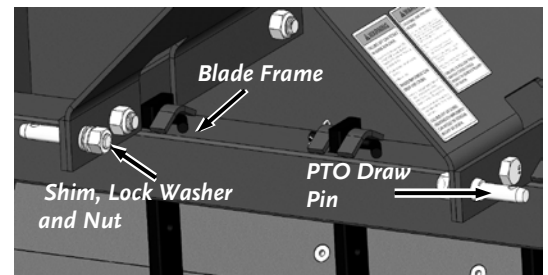

Figure 9
6. Install the PTO Class 1 Draw Pins to the Blade Frame (**Figure 9**). Loosely secure with 1" ID X 1.38" OD Shim, 7/8" Lock Washer and 7/8" Hex Nut.